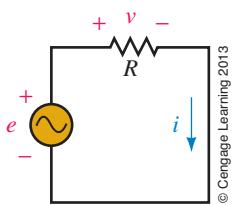

FIGURE 16-52
17. For Figure 16-52, $R = 12 \Omega$. For each of the following, determine the unknown current or voltage and sketch.